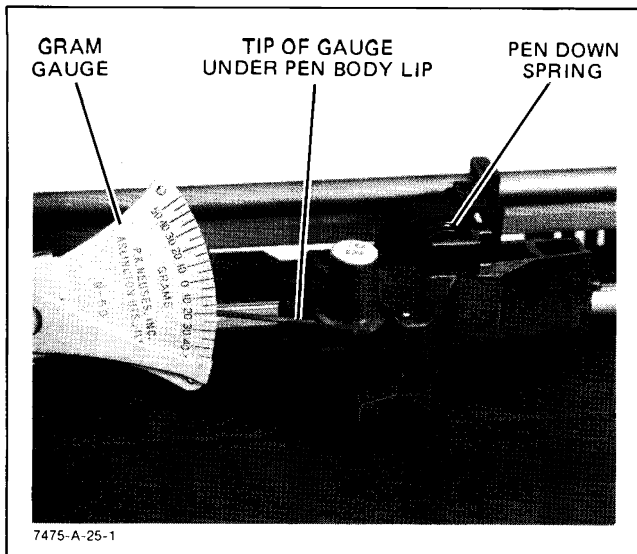

Figure 6-16. Measuring Pen Down Force
- l. Measure the pen down force by using a gram gauge. To do this, it is necessary to apply power to the plotter, and select and lower a pen onto the platten. Place the tip of the gram gauge under the lip of the pen body and check that the pen just starts to lift with  $19 \pm 10$  grams. See Figure 6-16. If the pen does not start to rise within 10 to 29 grams, replace the pen down spring. Refer to Table 4-3 for part number.